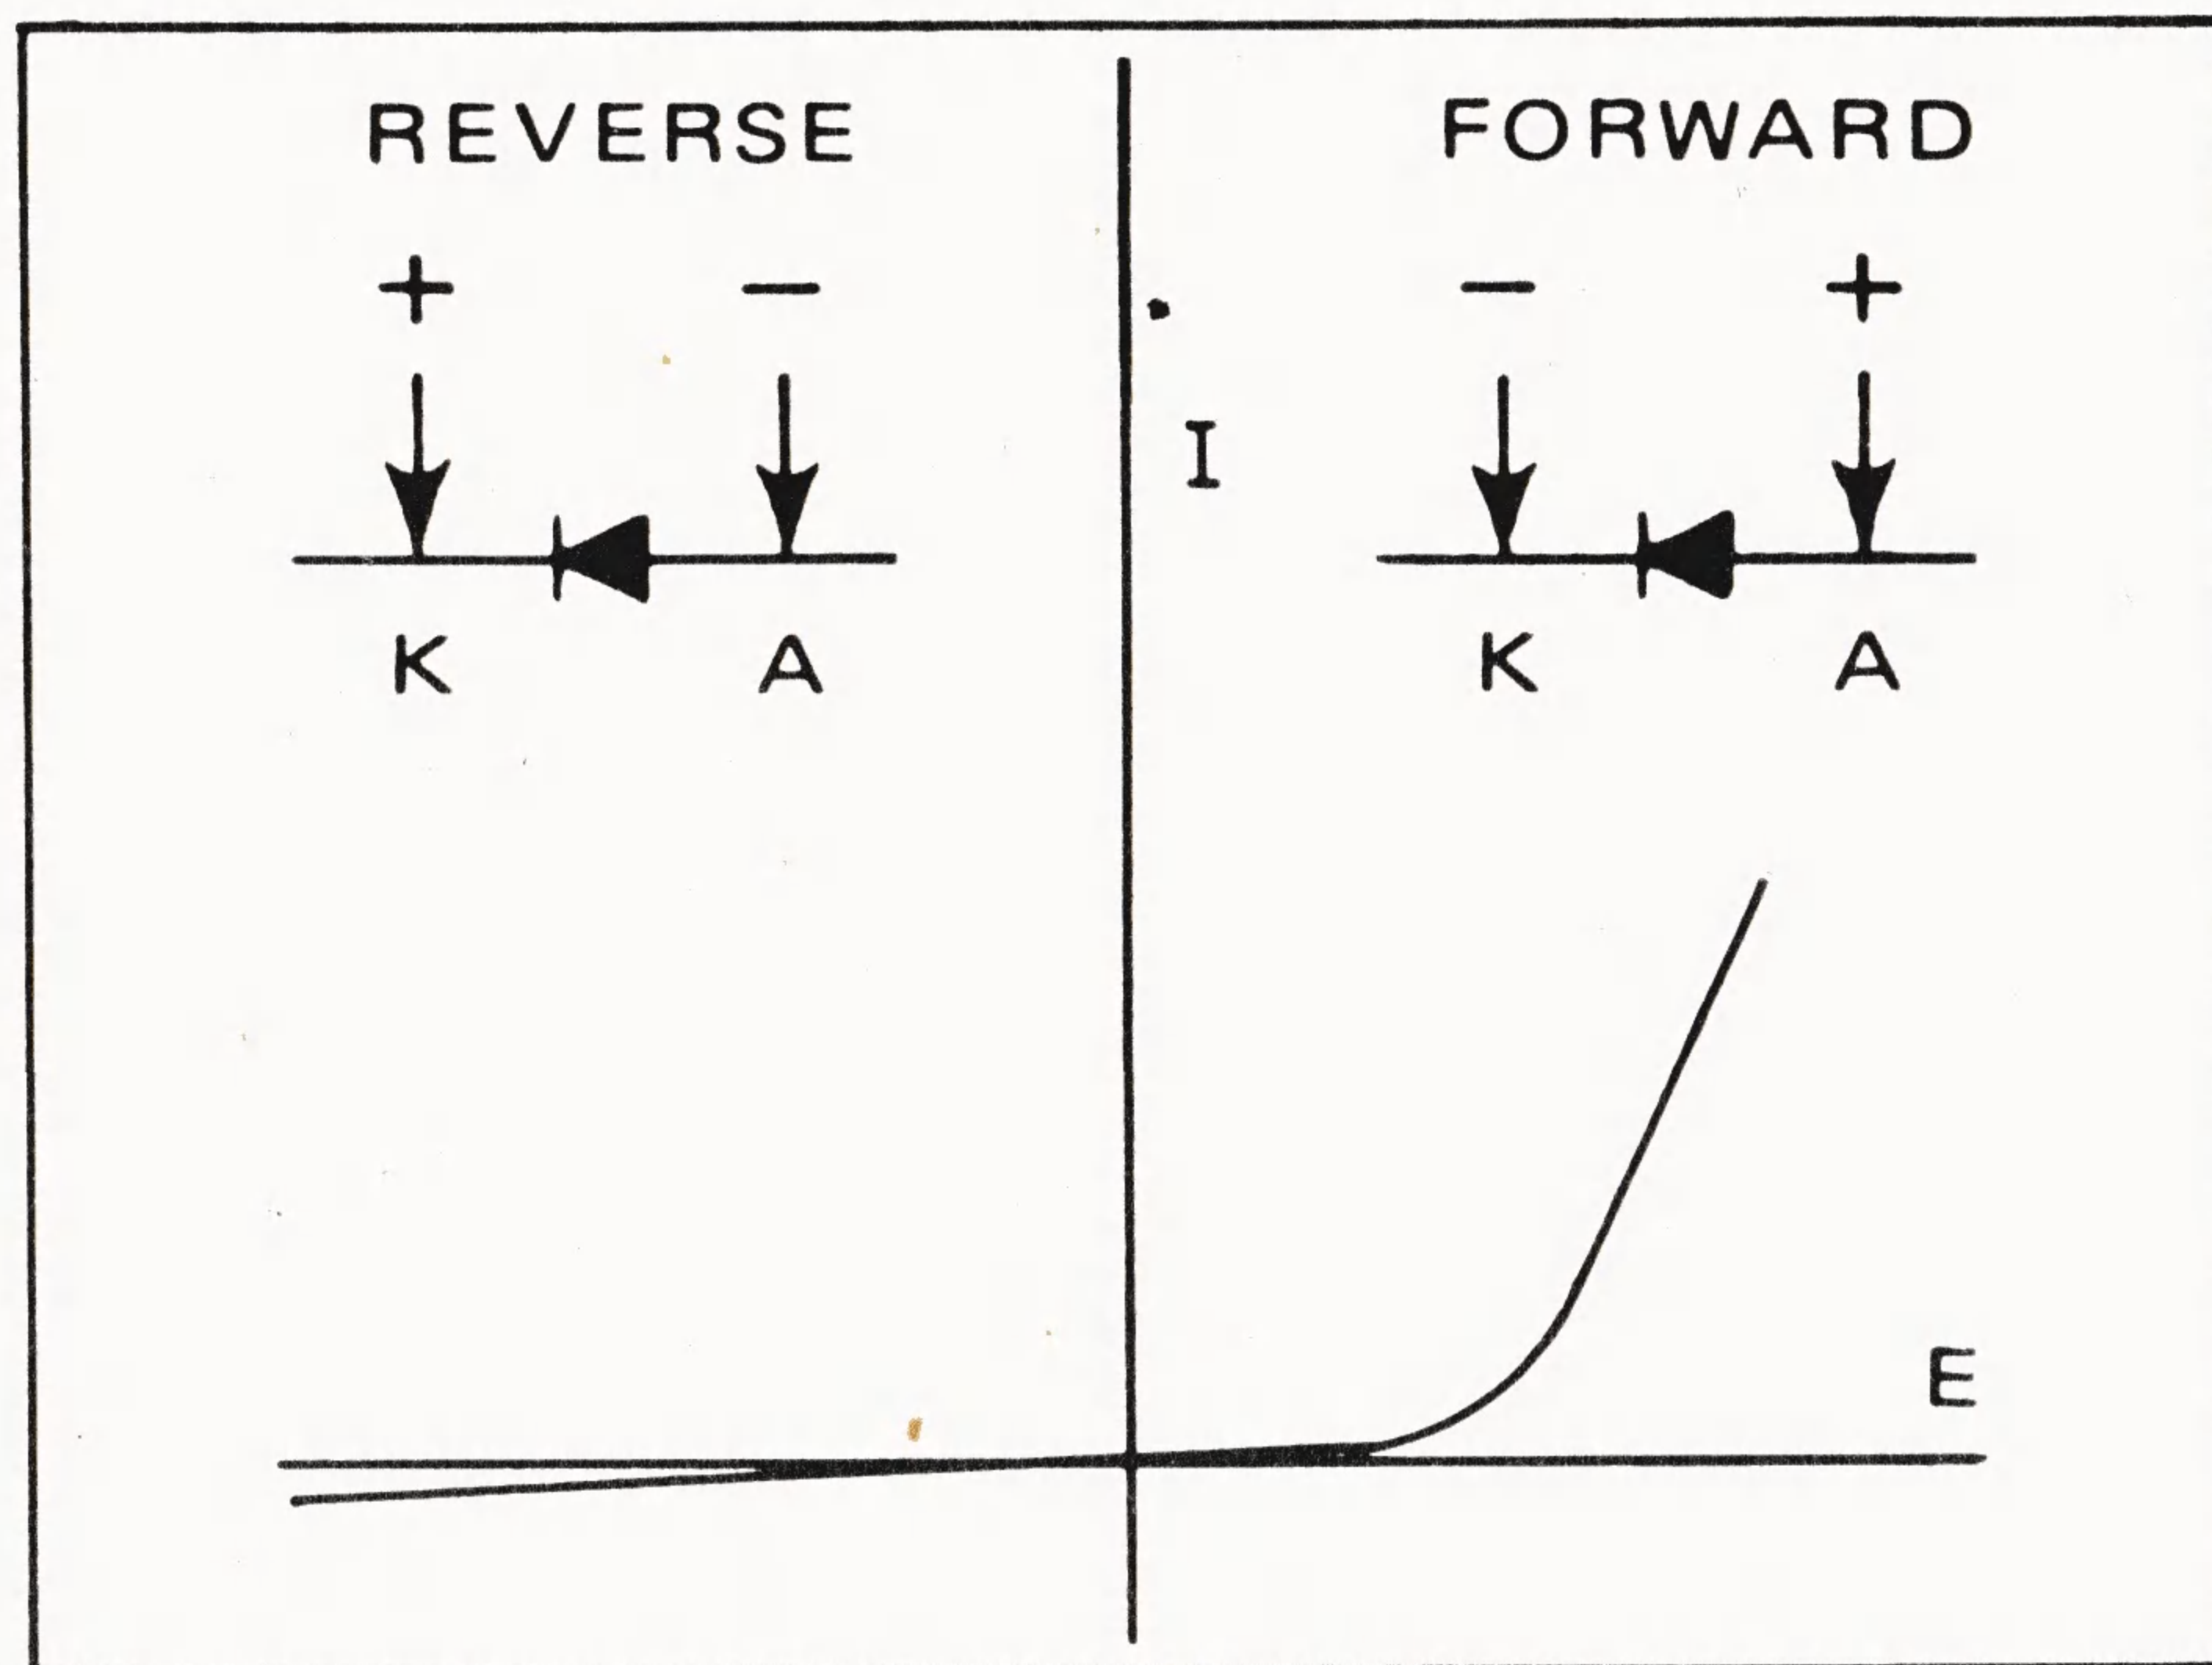

Figure 2.4 - Diode Curve
2.32 Diodes exhibit a characteristic curve similar to the one shown in figure 2.4. The figure illustrates that measurements taken in the forward direction (— Lead to K and + Lead to A) have a much lower value than measurements taken in the reverse direction (typically 100 times lower or more). The meter reading in the forward direction does not reflect an actual value of resistance; the diode is a non-linear device and the reading reflects the voltage drop at a fixed current. The measurement in the reverse